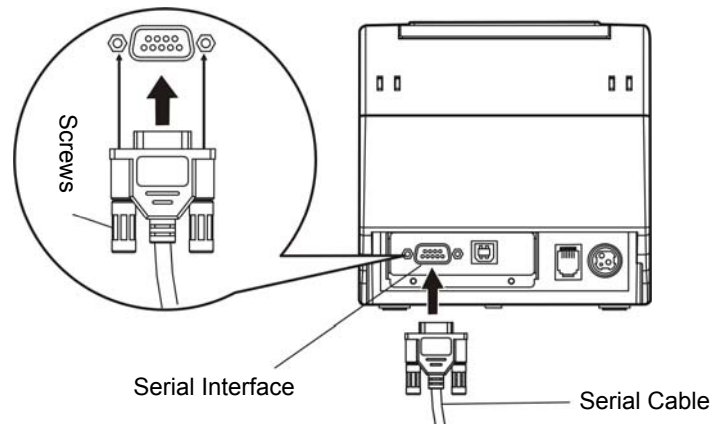

Fig2-3 Connecting the serial interface cable
1. Make sure the Host and the printer are both turned off, connect the serial interface cable to the connector on the rear panel of the printer. Tighten the connector screws as shown in Fig 2-3.